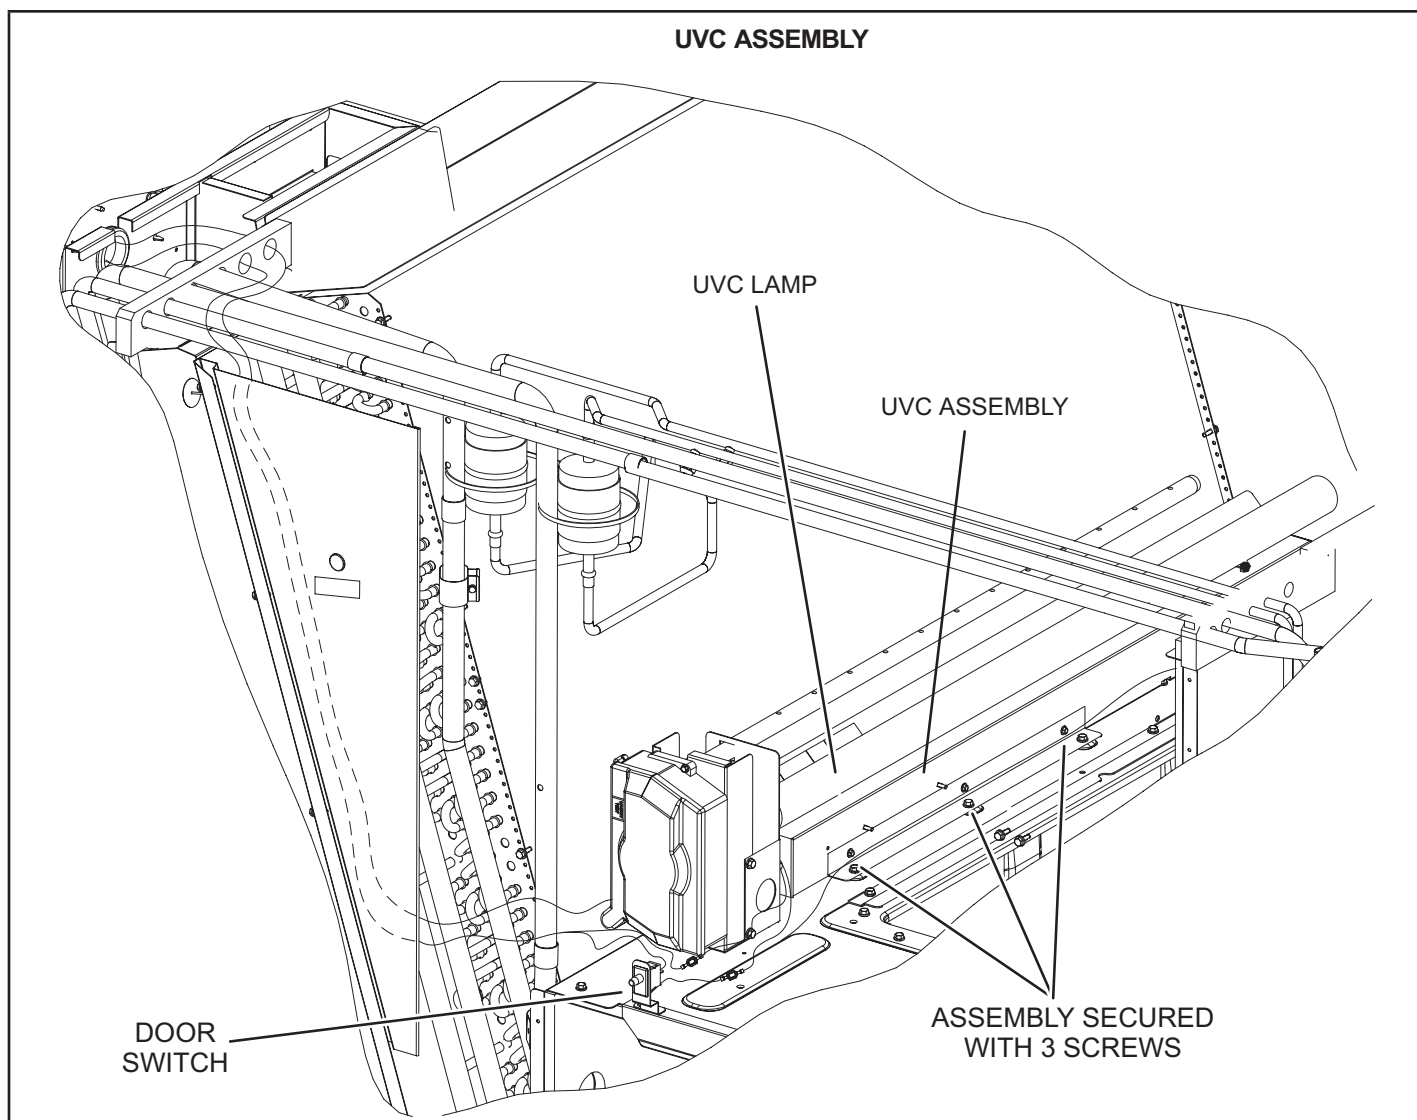

FIGURE 38
When the UVC light is factory installed, the lamp is shipped in a foam sleeve. The lamp is attached to the UVC light assembly on the blower deck. See FIGURE 38. Remove the lamp and install into the UVC light assembly as shown in steps 2 through 11.
- 5 - Remove and retain the (3) screws securing the UVC assembly. Carefully slide the complete UVC assembly out through the blower access door. See FIGURE 38.
- 8 - Carefully place the UVC assembly on the blower deck. Line up the mounting holes on the UVC assembly with the mounting holes on the blower deck. See FIGURE 38. Use the retained screws provided to attach the UVC assembly in place.